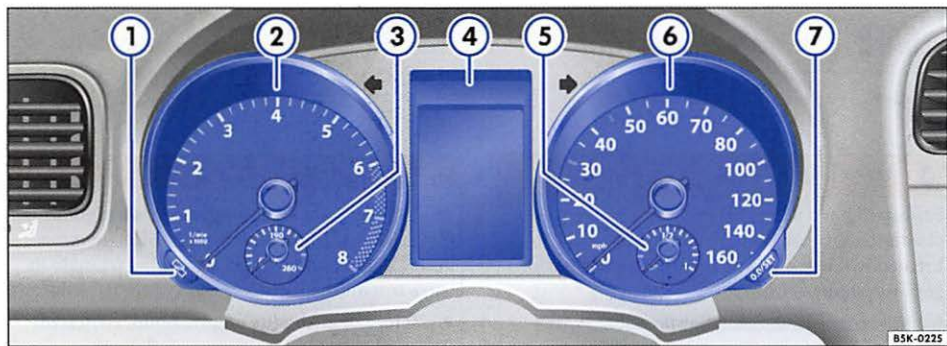

Fig. 6 Instrument cluster in the instrument panel.
Instrument explanations ⇒ fig. 6:
Depending on the vehicle model, different information may be shown in the instrument cluster display ⇒ page 16, fig. 6 ④.
The service appointment reminder is shown in the instrument cluster display $\Rightarrow$ page 16, fig. 6 . For more information, please see the Warranty and Maintenance booklet.